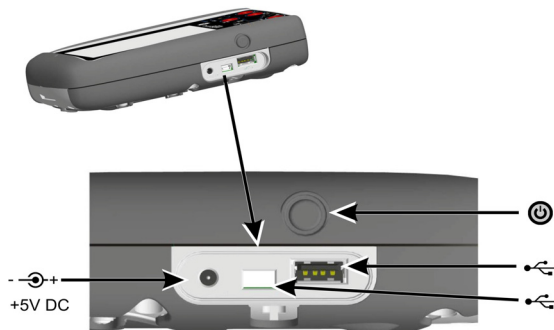

Fig 2 Side View
1. Connect the DC power supply/battery charger unit in to the +5V_{DC} connection on the side of the unit (Ref: Fig 2 Side View).
2. The battery can also be charged using the USB connections (Ref: Fig 2 Side View).
From OFF – press the power button (Ref: Fig 2, Side View) until the dashboard is displayed.